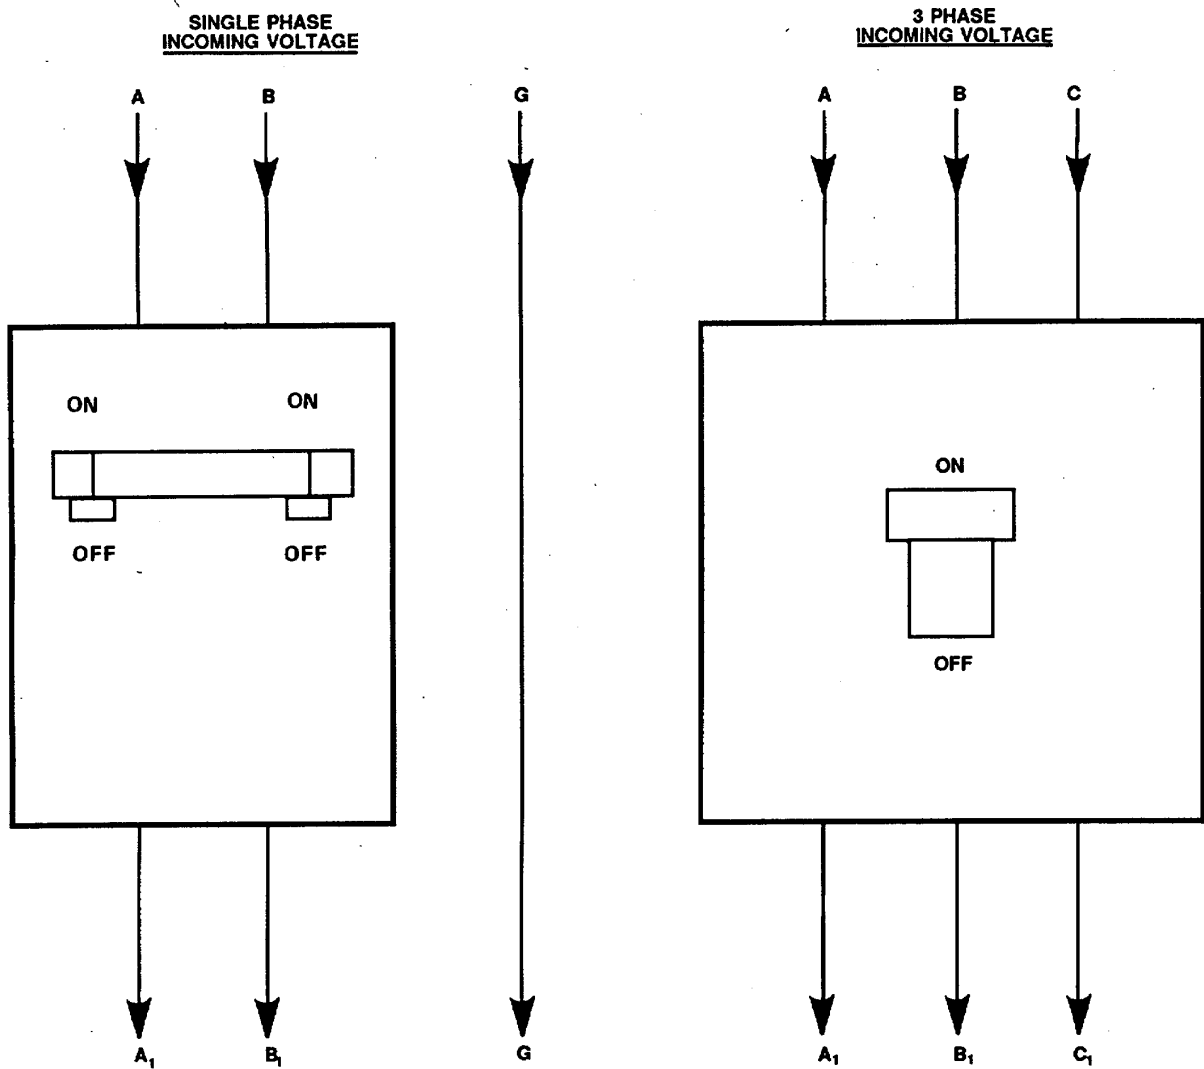

Figure 2-5. Checking Circuit Breakers.
- (2) Circuit Breakers.
- 1 Push manual switch(s) to OFF then ON to be sure breaker is closed. Start all equipment being fed by breaker. Refer to, FIGURE 2-5.